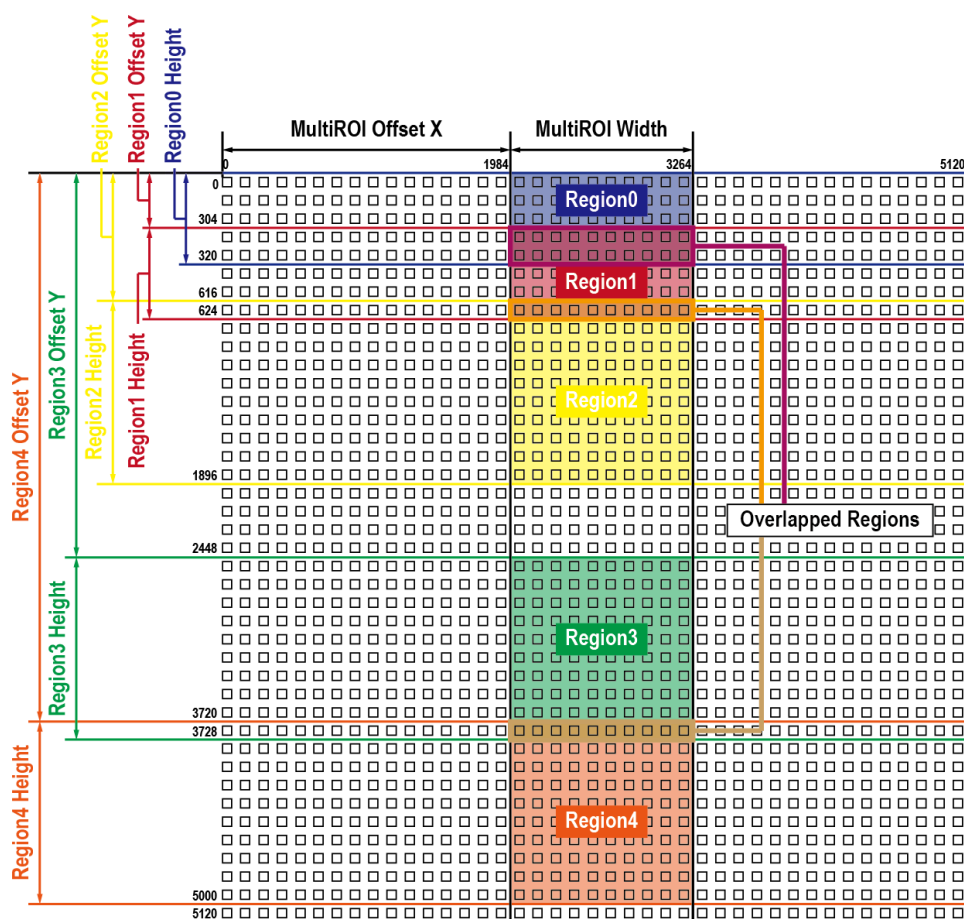

Figure 9.3 Multi-ROI with Overlapped Regions
- The sum of overlapped region's Height must not exceed 35 when you define vertically overlapped Multi-ROIs. In the Figure 9.3, for example, the sum of overlapped region's Height is 32.